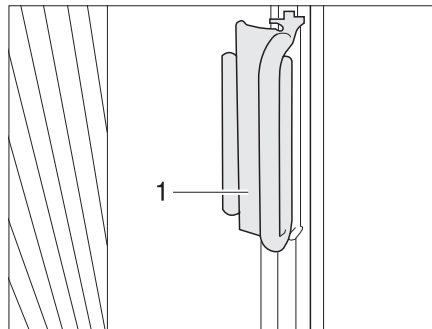

Fig. 81 Roman shade for driver's window and front passenger's window
- Grasp the handle (Fig. 81,1) of the Roman shades and draw carefully forwards until the magnetic catch keeps the Roman shades closed.
- Push the handle (Fig. 81,2) onto the upper part. The Roman shade is secured.